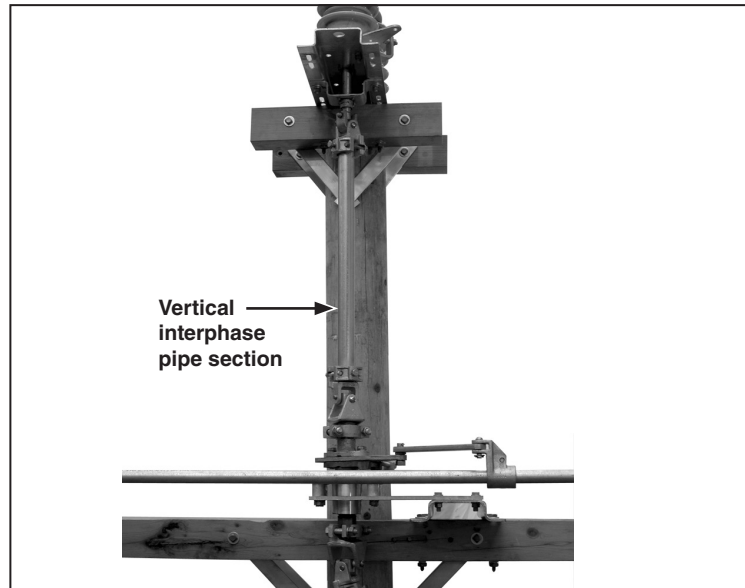

Figure 15. Use the vertical interphase pipe to connect the switch pole to the outboard bearing.
STEP 12. *For triangular-upright mounting configuration switches:* Install the vertical interphase pipe section to connect the switch pole to the outboard bearing assembly. See Figure 15. Follow the directions in “Installing Pipe Couplings with Piercing Set Screws” on page 13.